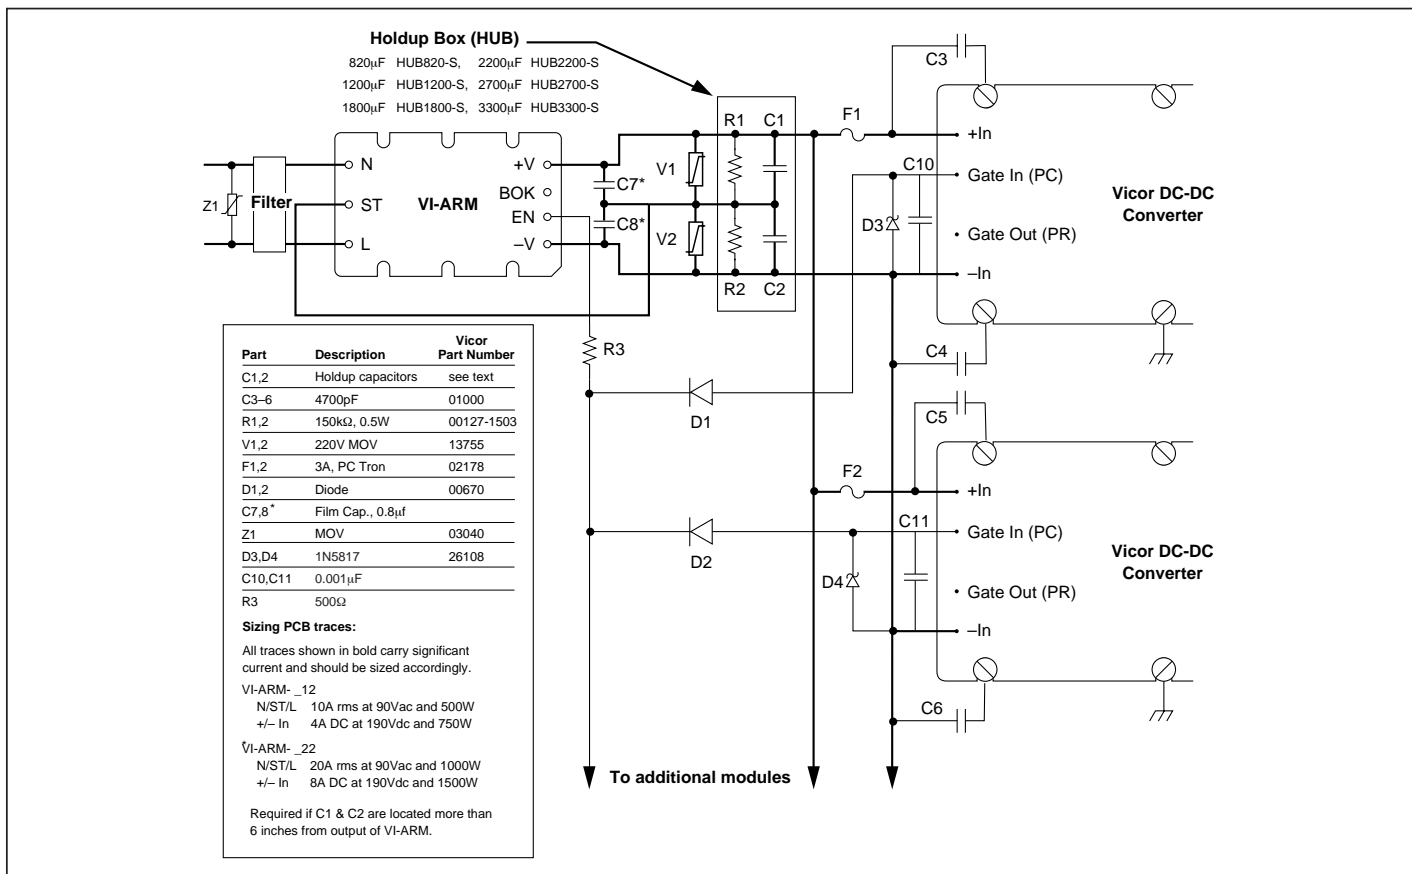

Figure 8—Converter connections
Strap (ST) Pin. In addition to input and output power pin connections, it is necessary to connect the Strap pin to the junction of the series holdup capacitors (C1, C2, Fig. 8) for proper (autoranging) operation. Gas tubes across the capacitors provide input transient protection. The bleeder resistors (R1, R2, Fig. 8) discharge the holdup capacitors when power is switched off.
It should be noted that the series combination (C1, C2, Fig. 8) requires each capacitor to be twice the calculated value, but the required voltage rating is reduced to 200V.